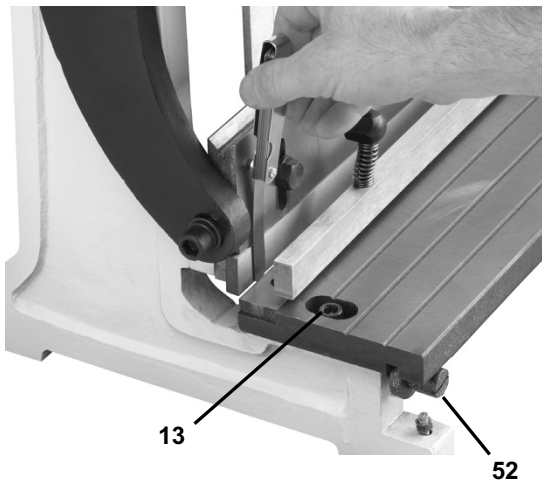

Figure 9-1
2. Measure along the length of the blades, check the gap of the moving blade and the fixed blade with a 0.002" (.05mm) feeler gauge as shown in figure 9-1.
3. Loosen the two cap screws (#13) that hold the table in place (fig. 9-1).